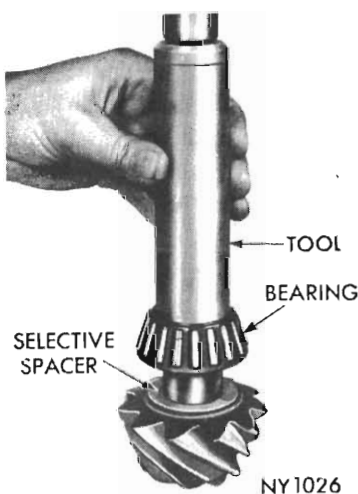

Fig. 26 - Installing pinion spacer and rear bearing using tool E3C10G.
(1) Place the selected spacer (*see Para. 8*) and the bearing on the pinion. Use installing Tool E3C10G to press bearing on pinion (*see Fig. 26*).